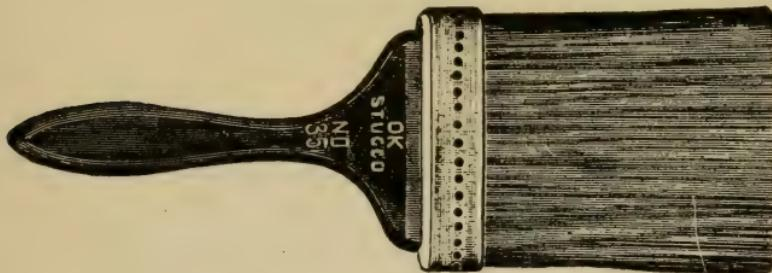

Fig. 4—Stucco Wall Paint Brush.
metal bound wall, and Fig. 4 for the “stucco or leather bound.”
**tle** brushes which have been described for filling, shellacking, etc. They buy those under the special names that they are wanted for, but differ so slightly from many of the flat stucco wall brushes that Fig. 4 will give one